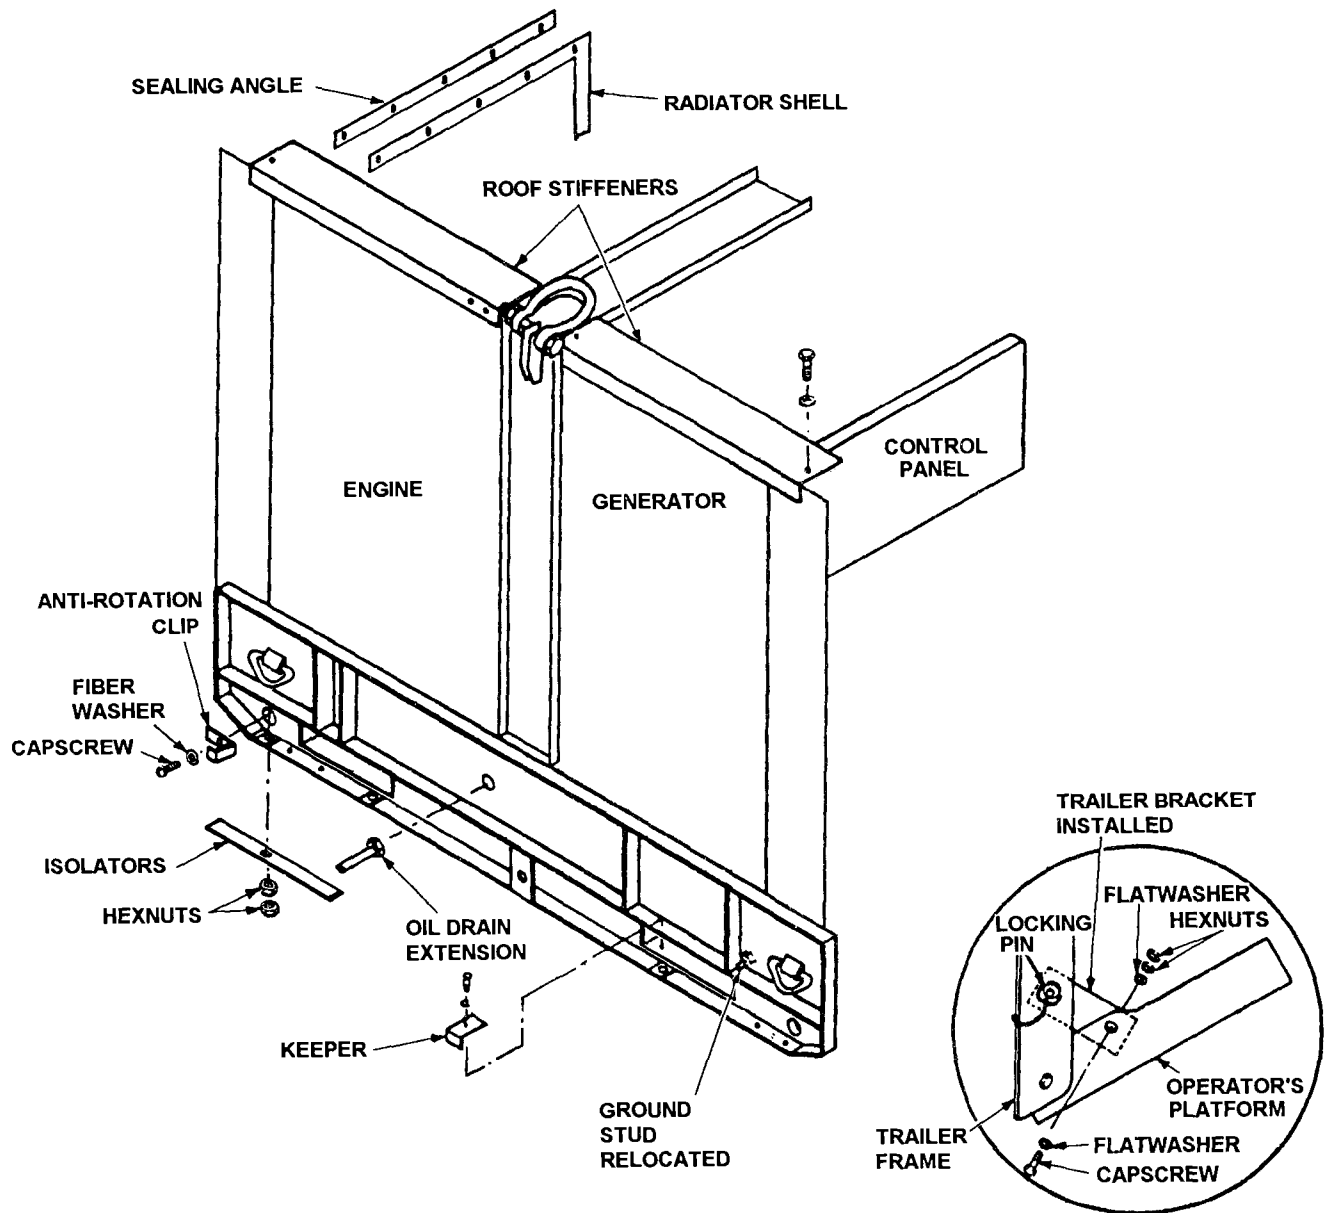

Figure 5-18. Roof Stiffeners, Sealing Angle, Oil Drain, Isolators, Bottom Panel Tray Assembly, and Trailer Brackets
- (1) Using a suitable lifting device, raise generator set and place 6"x6" blocks under skids. Lower generator set onto blocks.
- (2) Grease inside of generator set skids with grease (GAA).
- (3) Using a suitable lifting device, raise generator set, remove 6"x6" blocks, and place 2"x4" blocks under skids of generator set. Lower generator set onto 2"x4" blocks. Ensure blocks are under skids only. Do not remove tension from lifting device.
- (4) Slide bottom tray under generator set. Ensure weld nuts are positioned in down position. Weld nuts should be centered on fork lift tunnel holes.
- (5) Raise bottom tray assembly, and install keepers, washers, and capscrews to secure on side of bottom tray assembly. (Refer to Figure 5-18.)
- (6) Raise generator set, and remove 2"x4" blocks. Place a 1"x4" block under bottom tray assembly on other side and slowly lower generator set to push bottom tray assembly into position. Rubber must not bend or be allowed to tear loose when generator set is lowered.
- (7) Install keepers, washers, and capscrews to secure the bottom tray assembly. (Refer to Figure 5-18.)
- (8) Raise generator set, and remove 1"x4" block Lower generator set and remove lifting device.
- (1) Raise side panel skirts, and install ground wire. Install anti-rotation clips and fiber washer on capscrews, and install capscrews. Lower side panel skirts.
- (2) Glue isolators on skid base or surface of trailer. (Refer to Figure 5-18.)
- (3) Lower generator set onto trailer. Attach ground wire to trailer.
- (4) Install washers and nuts on capscrews to secure generator set.